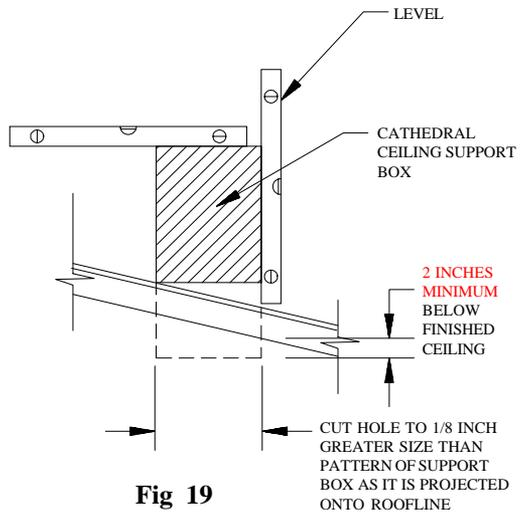

Fig 19
Step 4. Lower the Support Box through the hole in the roof until each side of the bottom of the Support Box protrudes at least **2-inches** below the ceiling. (Fig 19). Align the Support Box both vertically and horizontally with a level. Temporarily tack the Support Box in place through the inside walls and into the roof sheathing.